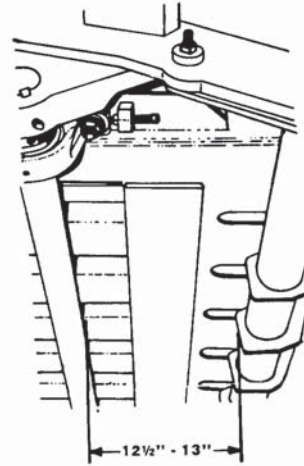

Figure 99 - Feed Fork Crank Shaft to Feed Fork Mounting Tube
12. Measure from rear side of feed fork crankshaft to front side of feed fork tine mounting tube (see Figure 99). When the feed fork is at its highest point of travel in the chamber, the measurement should be 12.5" to 13 inches. Rotate the cam forward.